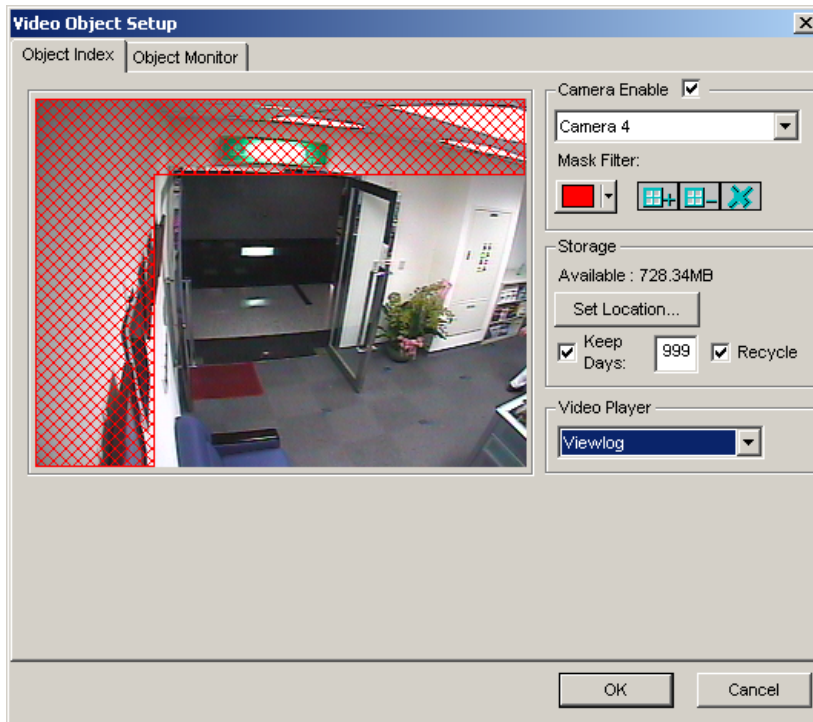

Figure 2-7 Video Object Setup for Object Index
3. Click the Configure button to display the Video Object Setup window. (Refer to Object Index, figure 2-7.)